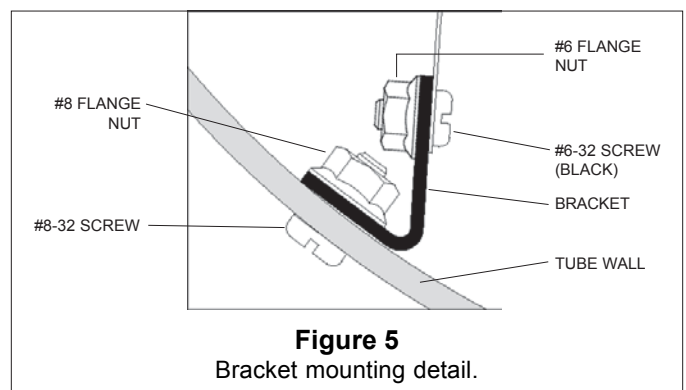

Figure 5
Step 6 **Permanently install the arch to the brackets.** Remove the #6 screws holding the arch to the brackets, and remove the arch. Note that the brackets have three positions for the tangs at the feet of the arch to snap in to. This allows for precise positioning of the secondary mirror within the tube. Find the best position for the arch that best positions the secondary mirror within the tube. Reinstall the #6 fasteners, and fully tighten (see **Figure 5**).